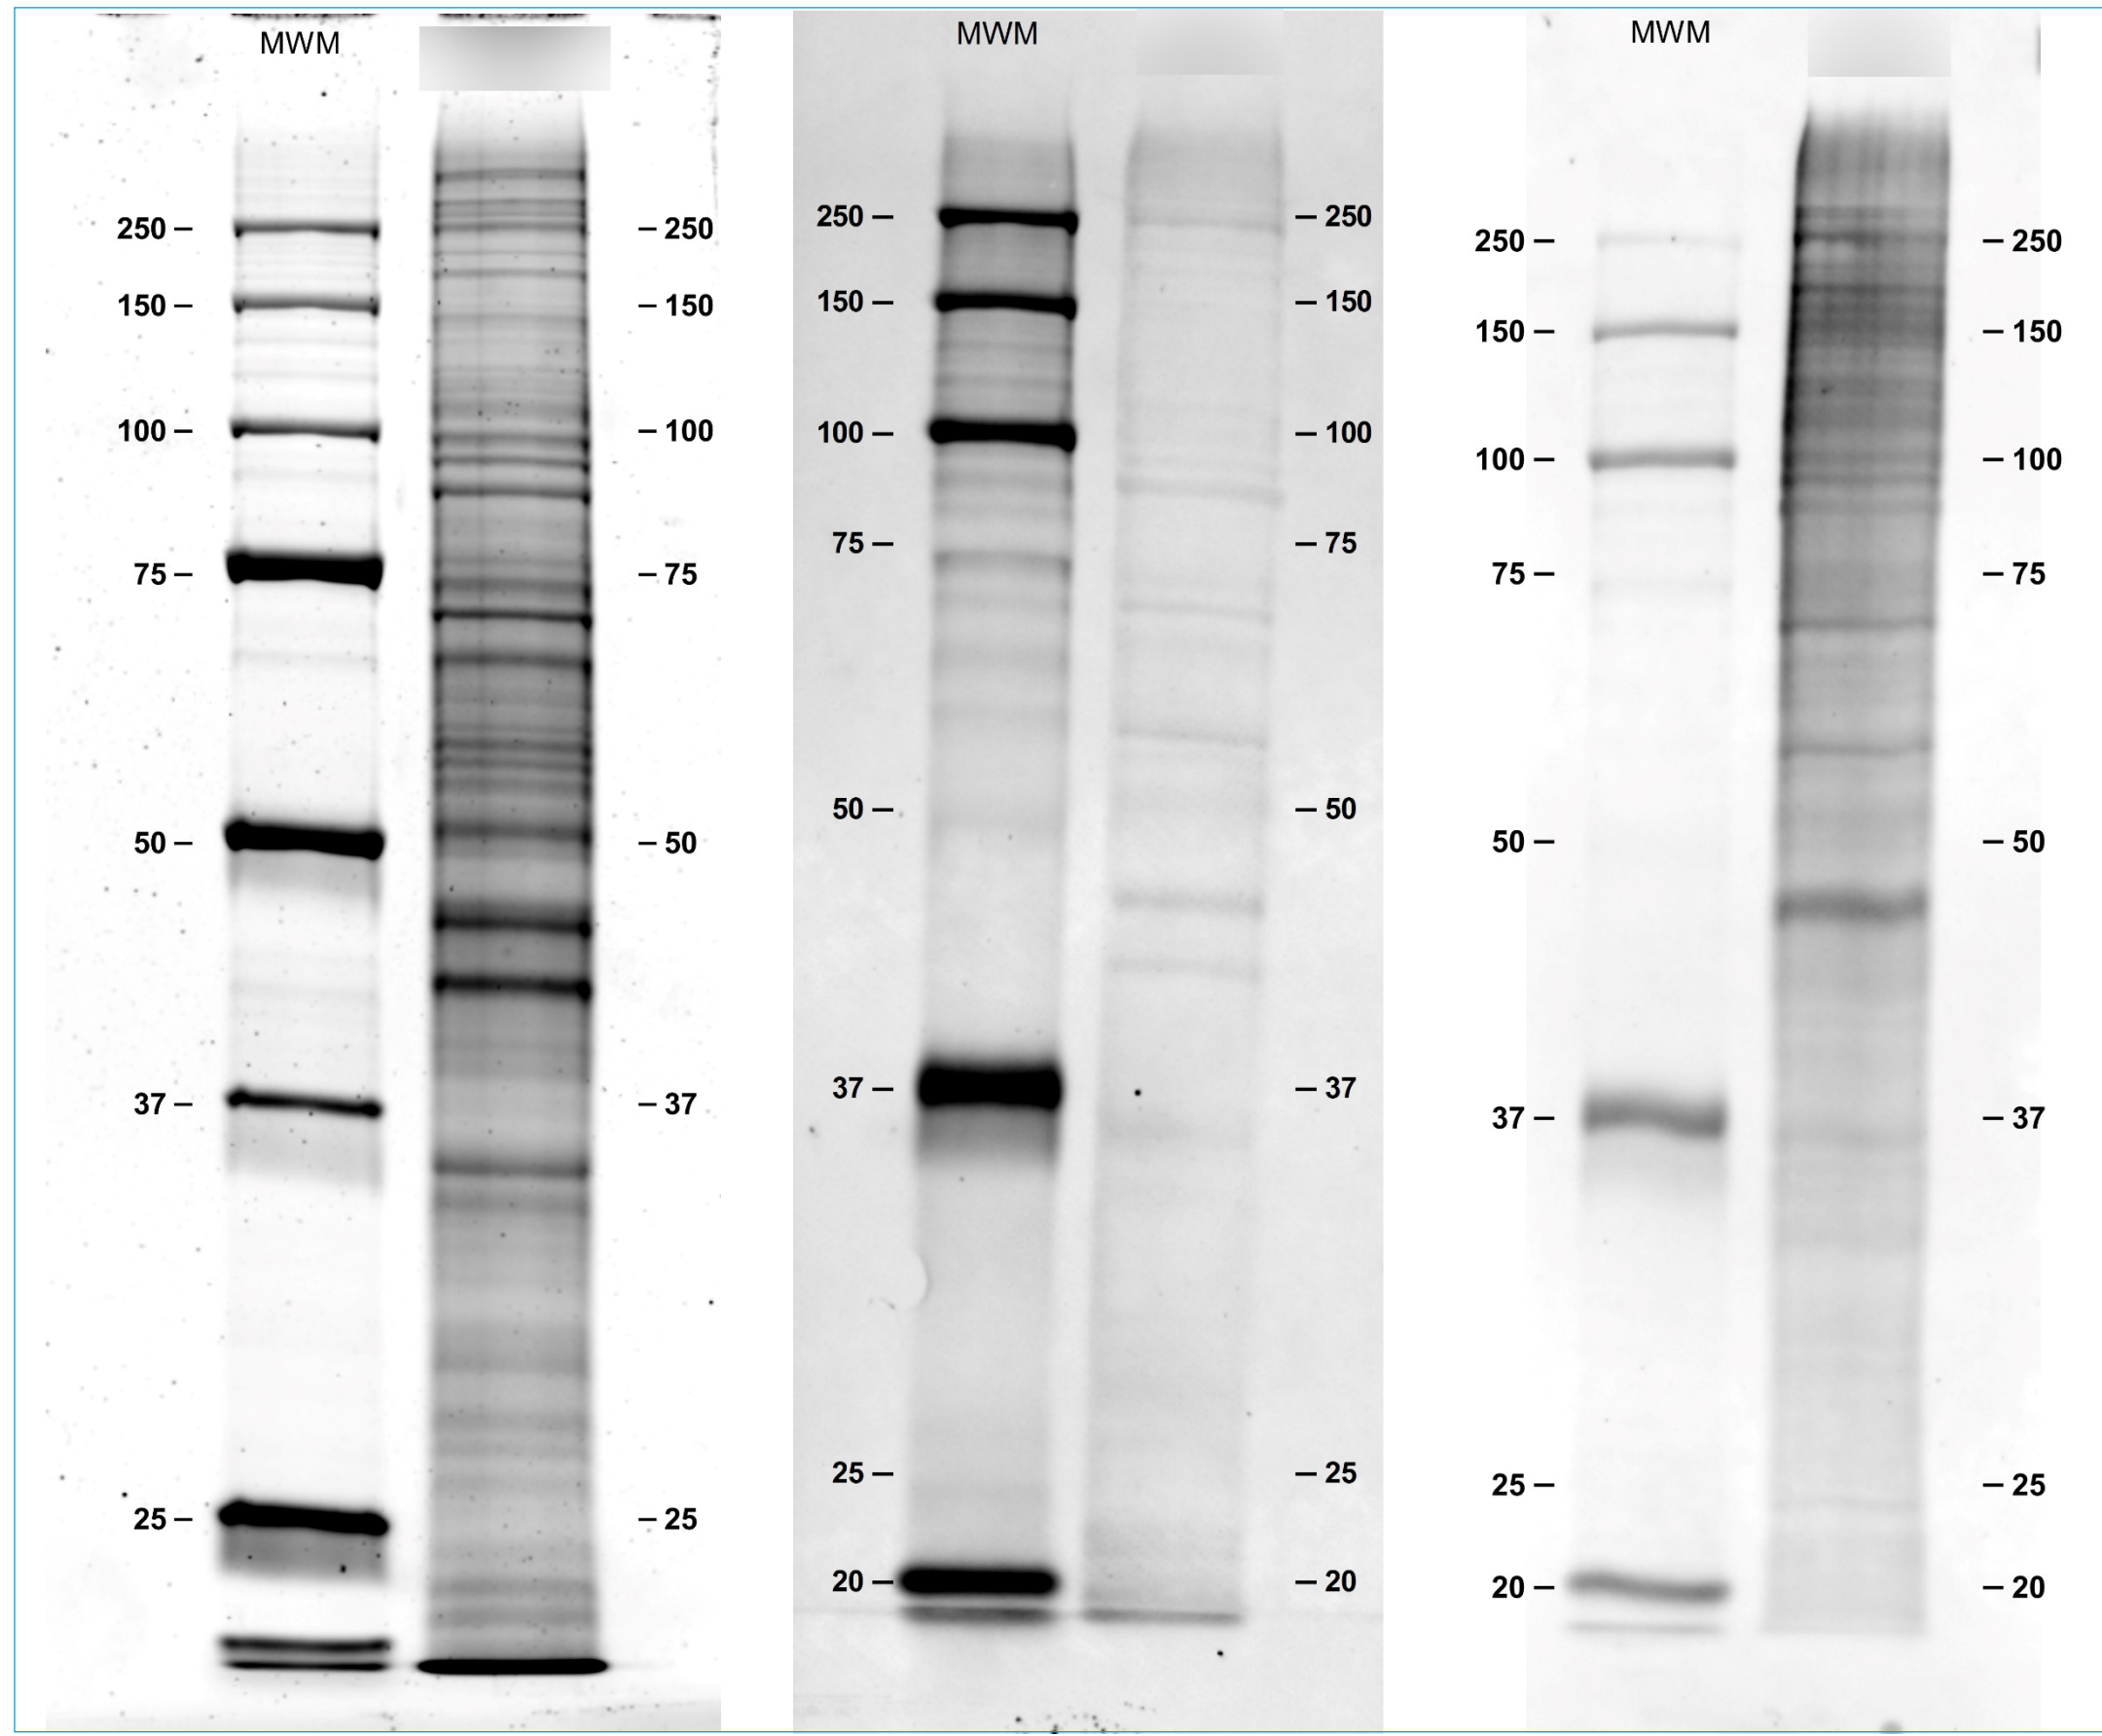

Figure 1. Sypro ruby-stained 1D gel (left) with WB of antiserum in early stages of a program (center) and in middle to late stages of a program (right).
- ▶ Comparison is made between stained gel illustrating all detectable proteins in gel vs bands visualized in WB (e.g., Fluorescence). See Figure 1 for example images.
See Table 2 for examples of titer data and Figure 1 for example WB data.
Figure 2. Changes in protein band recognition between stages of program illustrated by densitometry (top image corresponds to center image from Figure 1, while the bottom image corresponds to the right image from Figure 1).